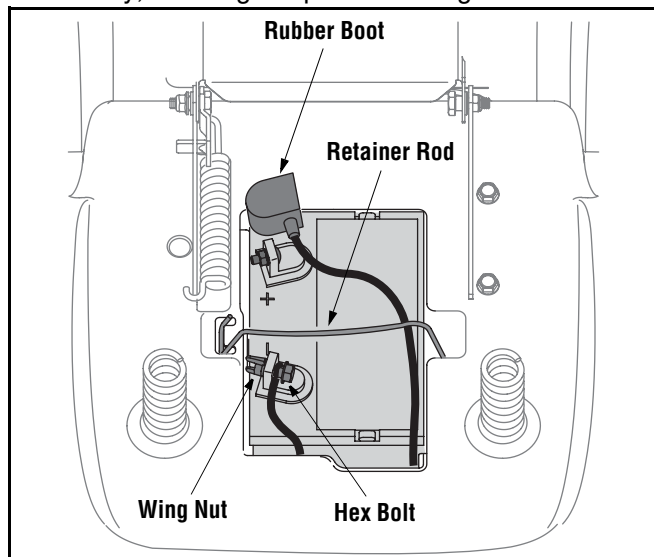

Figure 1
- Make certain the retainer rod is in position over the battery, securing it in place. See Figure 1.